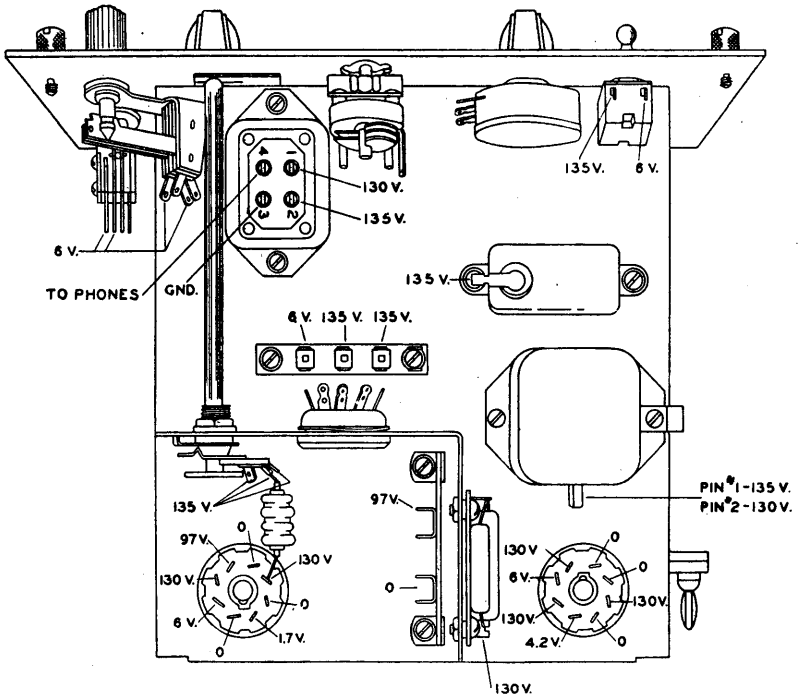

FIGURE 9—Voltage Check Points
(4) The simplest way to check the crystal oscillator circuit for oscillation is to proceed as in (3), except in this case the test is made by turning the chassis upside down, holding one end of a wire (or other metallic object such as a screw driver) in contact with the chassis while the other end is touched several times to the lead which connects the crystal socket to the small variable capacitor, (50) mounted behind the nameplate. With the GAIN control well advanced clockwise (to the right), a loud click should be heard each time contact is made. The absence of clicks does not mean definitely that the crystal circuit is not oscillating because as in (3), the failure of the detector, the audio amplifier or the phones could prevent the clicks from being heard. An alternate and more positive method of testing the oscillator is to couple a receiver to the frequency meter, throw the operation switch to XTAL ONLY and tune the receiver (adjusted for CW reception) in the vicinity of any integral megacycle, such as 2, 3, 4, etc. megacycles, listening for the familiar beat note as the receiver frequency passes the frequency of the crystal or its harmonics.
(5) The audio amplifier and detector may be most simply tested as follows; Connect and warm up the unit as in (2), advance the GAIN control clockwise (to the right), and listen in the headset for a loud click as TUBE VT-167 is removed from the socket. This is actually a combined test for the audio amplifier and for the plate circuit of the detector tube. The remainder of the detector circuit must be checked by a voltage and resistance test.
(6) When one of the above tests shows a failure in the instrument, and if changing tubes does not remedy the situation, the next procedure is to measure the voltages on the various socket connections and at various key points in the meter. Using a meter with a resistance of 1000 ohms per volt and with a scale of at least 150 volts for "B" voltage measurements and at least 6 volts for "A" voltage measurements, check for voltages shown in figure 9. Since there are slight manufacturing differences in both tubes and resistors, the voltages measured may vary at least 15 per cent from the values shown. If any test shows zero where a voltage should be present, trace the circuit with the aid of the schematic diagram in figure 15 until a point is reached where the voltage present agrees reasonably well with the voltage specified.